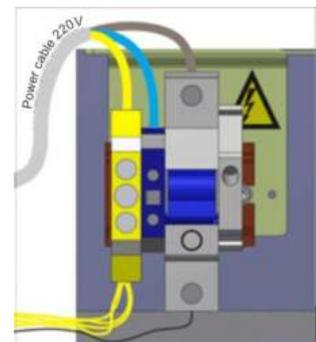
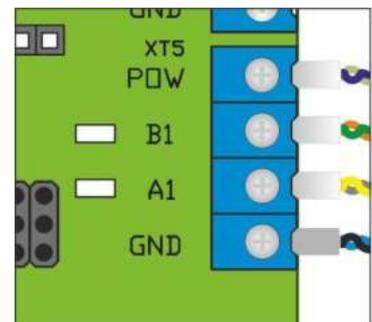

Fig. 21- Connection of power supply cable
Fig. 22 – Connection of control desk link cable to terminals
a) Power supply cable ~230 V to be connected (Fig. 21):
- Neutral (N) to be connected to terminal ~230V (N);
- Earth (PE) to be connected to earthing terminal (PE)
b) Control desk link cable to be connected to terminals (Fig.22):